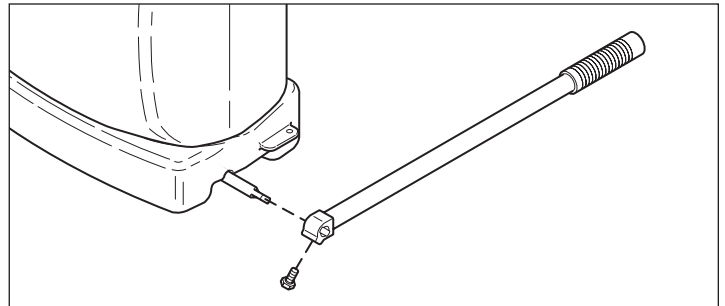

Figure 4. Install Pump Handle
2. Install the pump handle on the pump rod. Install the bolt and tighten securely. See Figure 4.